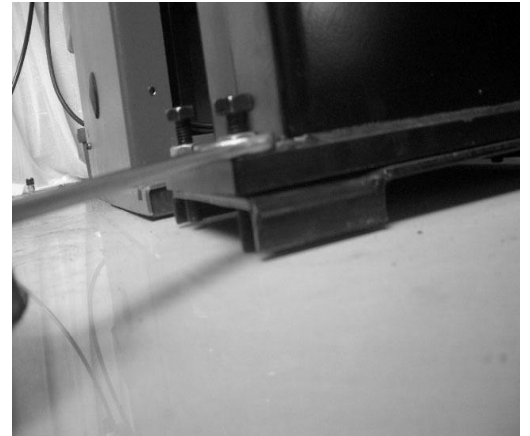

Fig43
6.1.10 Loosen the nut below the base and turn the screw clockwise until it against the ground and tight (fig43) and install